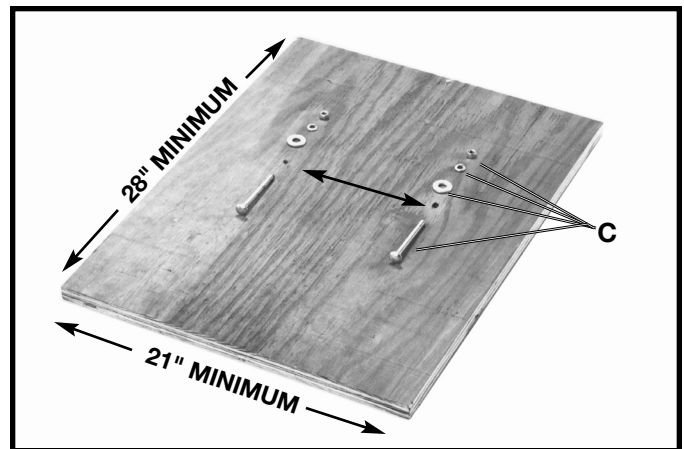

Fig. 4
2. Use a plywood board base, with the minimum dimensions as shown in Fig. 4 for mounting the drill press base to a supporting surface.
5. Fasten the drill press base to the mounting board using the carriage bolts, flat washers, lockwashers, and hex nuts (C) Fig. 4, furnished with your drill press. The holes for the carriage bolt heads must be countersunk so that the bolt heads are flush or below the bottom surface of the mounting board.